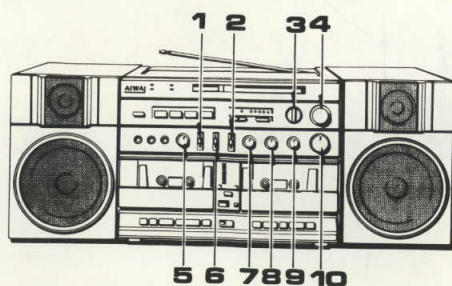

Fig. 1
- 1) Pull out ten pcs. of the respective knobs (See figure 1)